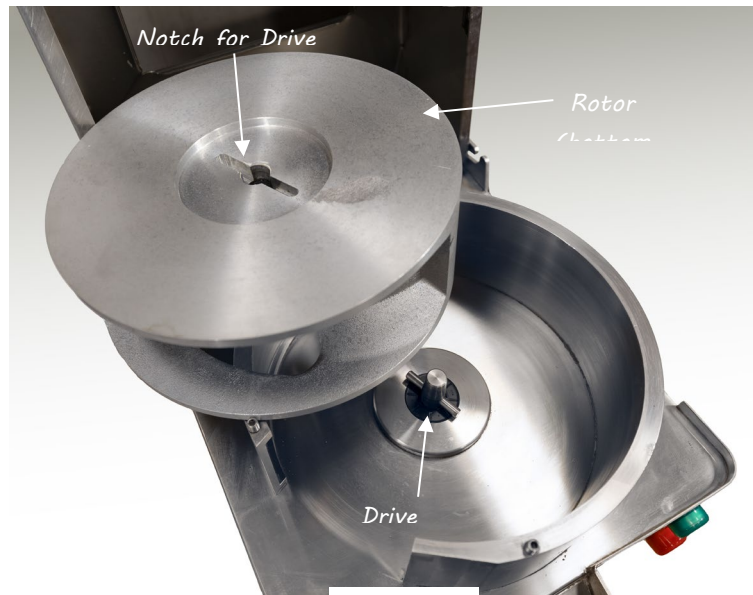

Figure 2
1. The Rotor is notched at the bottom to fit over the Drive Shaft (*Figure 2*).